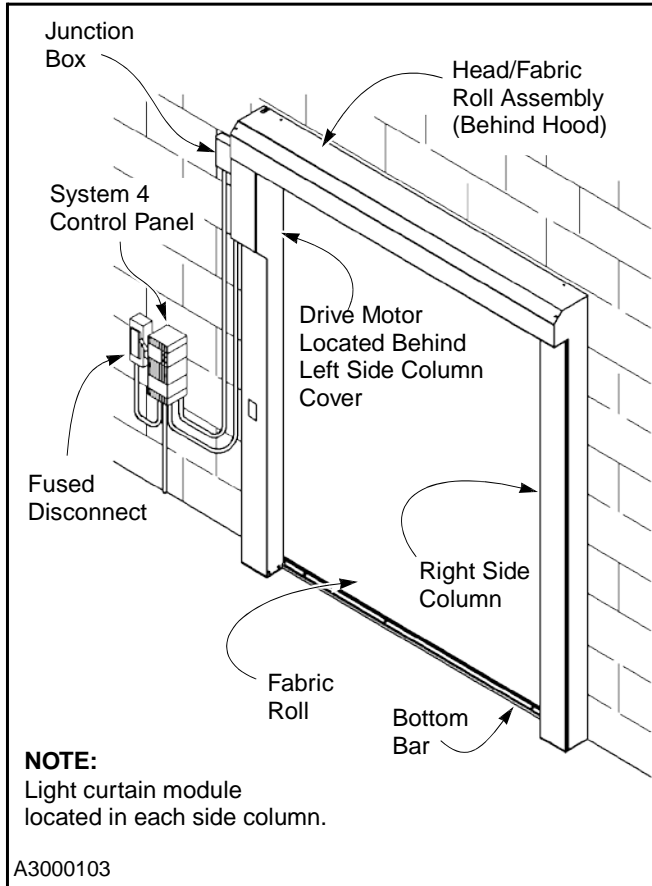

Figure 2
5. The Rytec control panel and a fused disconnect should be installed prior to the start of the door installation. (See Figure 2 for layout.)
1. Install fused disconnect and Rytec control panel. (See Figure 2 for typical installation.)
Figure 2 shows the location of the major components of your Pharma-Seal. This illustration should be used as reference only and should not be used as part of the installation instructions.